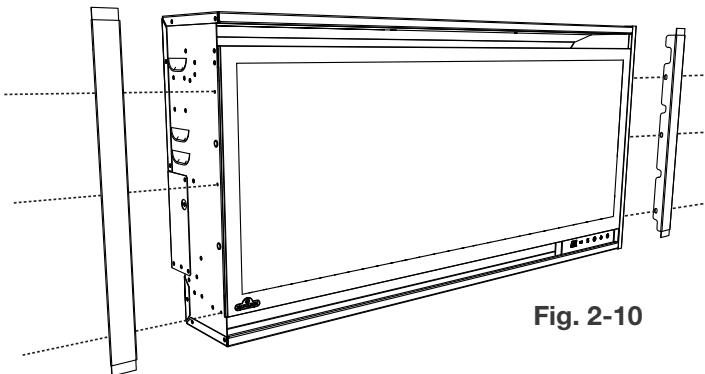

Fig. 2-10
1. Install left and right trims, and secure with screws (supplied) (**Fig. 2-10**).